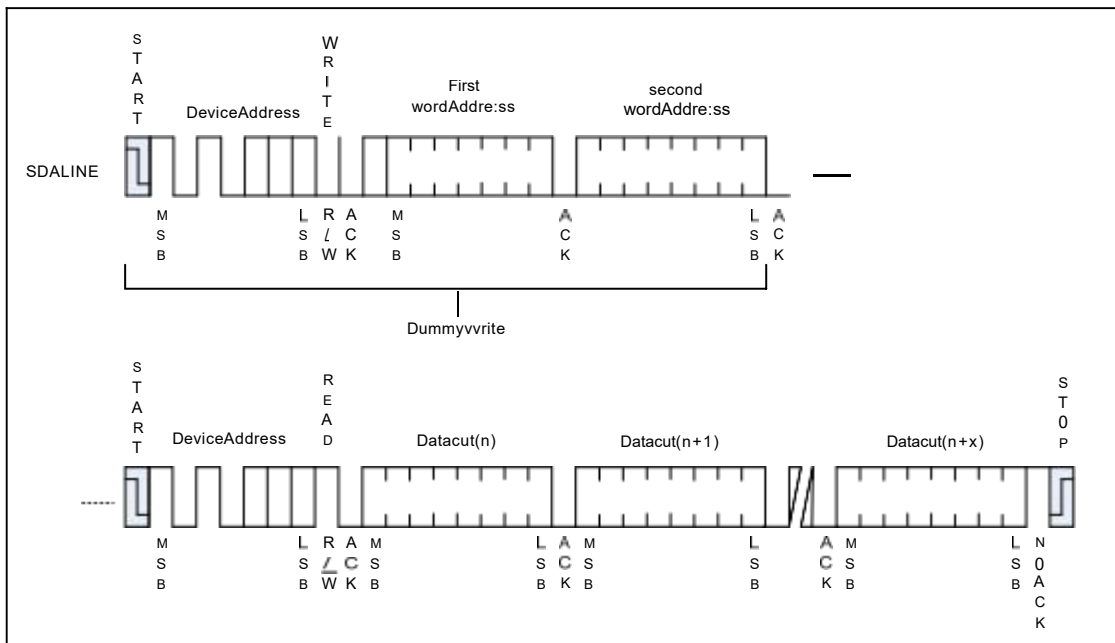

Figure10 Sequential Read
**SEQUENTIAL READ:** Sequential reads are initiated by either a current address read or a random address read. After the microcontroller receives a data word, it responds with acknowledge. As long as the EEPROM receives acknowledge, it will continue to increment the data word address and serially clock out sequential data words. When the memory address limit is reached, the data word address will “roll over” and the sequential read will continue. The sequential read operation is terminated when the microcontroller does not respond with a “0” but does generate a following stop condition (see to Figure 10).